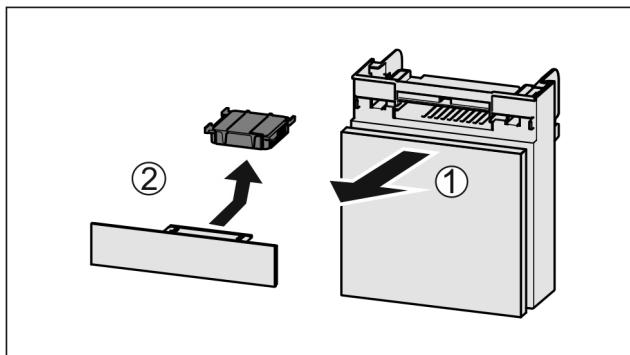

Fig. 120
- ▶ Pull out the compartment Fig. 120 (1).
- ▶ Remove the carbon filter Fig. 120 (2).